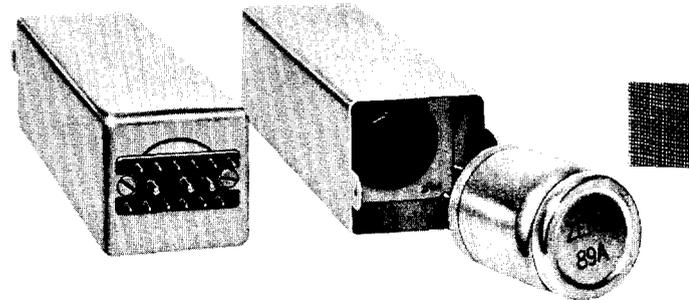

Fig. 1 — 849G Network
2.01 The 849G network is a plug-in unit (see Fig. 1) equipped with a 15-pin connector plug and is designed to be plugged directly into the mating connector socket of the equipment mounting shelf. The network consists of a 600:600-ohm transformer and a 600-ohm balanced pad (when the required 89-type plug-in resistor is inserted in the pad socket). The network is housed in a metal can approximately 1-3/4 inches wide by 1-3/4 inches high by 7 inches long.